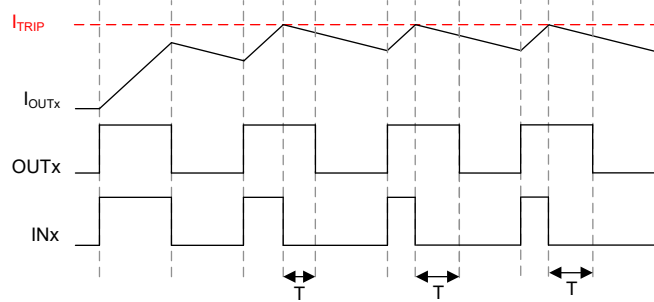

Figure 7-6. Inductive Load Connected to ground, Cycle-by-cycle control
- Loads can also be controlled using the cycle-by-cycle method. When  $INx = 1$ , the current through the load builds up; and when  $INx = 0$ , the current through the load decays. By properly choosing the duty cycle of the  $INx$  pulse, current can be regulated to a target value. Various such scenarios are shown in Figure 7-5 and Figure 7-6.